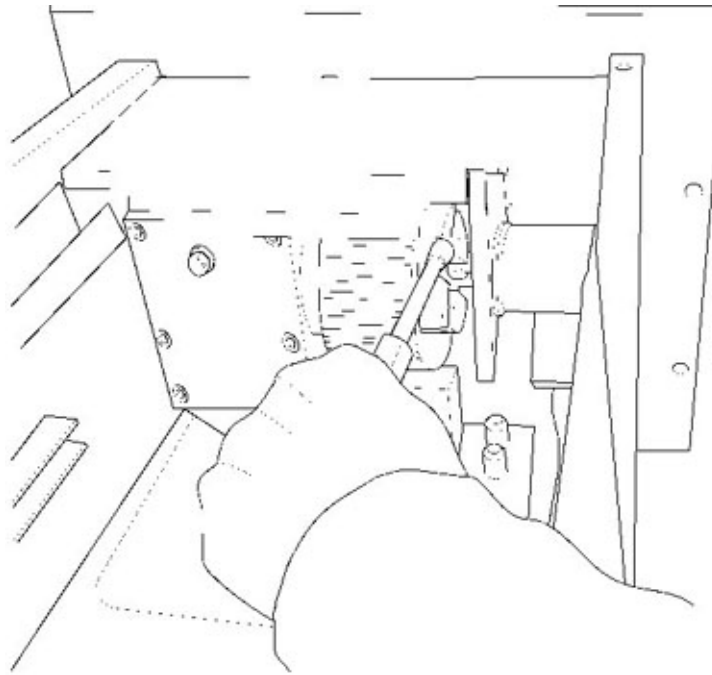

Fig. 5-13 Loosen coupling
5. See Figure 5-13. Loosen the coupling near the position sensor using a screwdriver and disconnect the encoder.